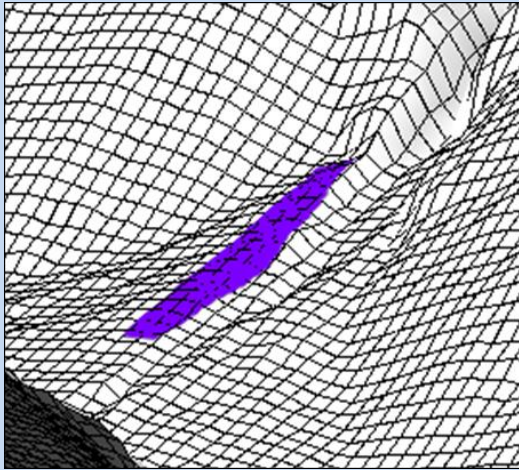

Figure 4.17: Release area where a dam is supposed to be built.
- Create a polygon shapefile where a dam is supposed to be built (Figure 4.17).